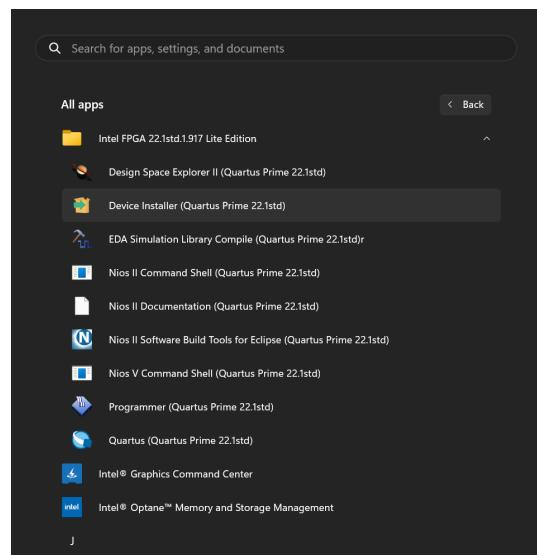

Figure 19: Finding the Quartus device installer in the Windows Start Menu.
- 3) Select “Intel FPGA ...” and then “Device Installer (Quartus ...)” as shown in Figure 19.